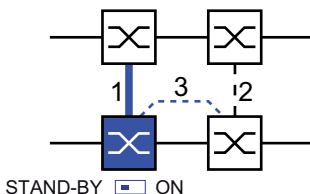

Figure 34: Two-Switch coupling with control line
- Select „Two-Switch coupling with control line“ by means of the dialog button with the same graphic as below (see figure 34).